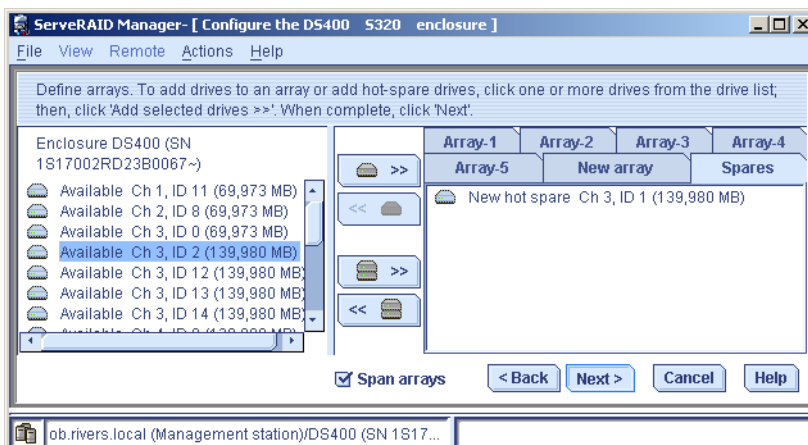

Figure 4-97 Checked Span arrays
13. Click the **Span arrays** check box shown in Figure 4-97 to create spanned arrays. Without checking this checkbox, spanned arrays cannot be created. Click **Next**.